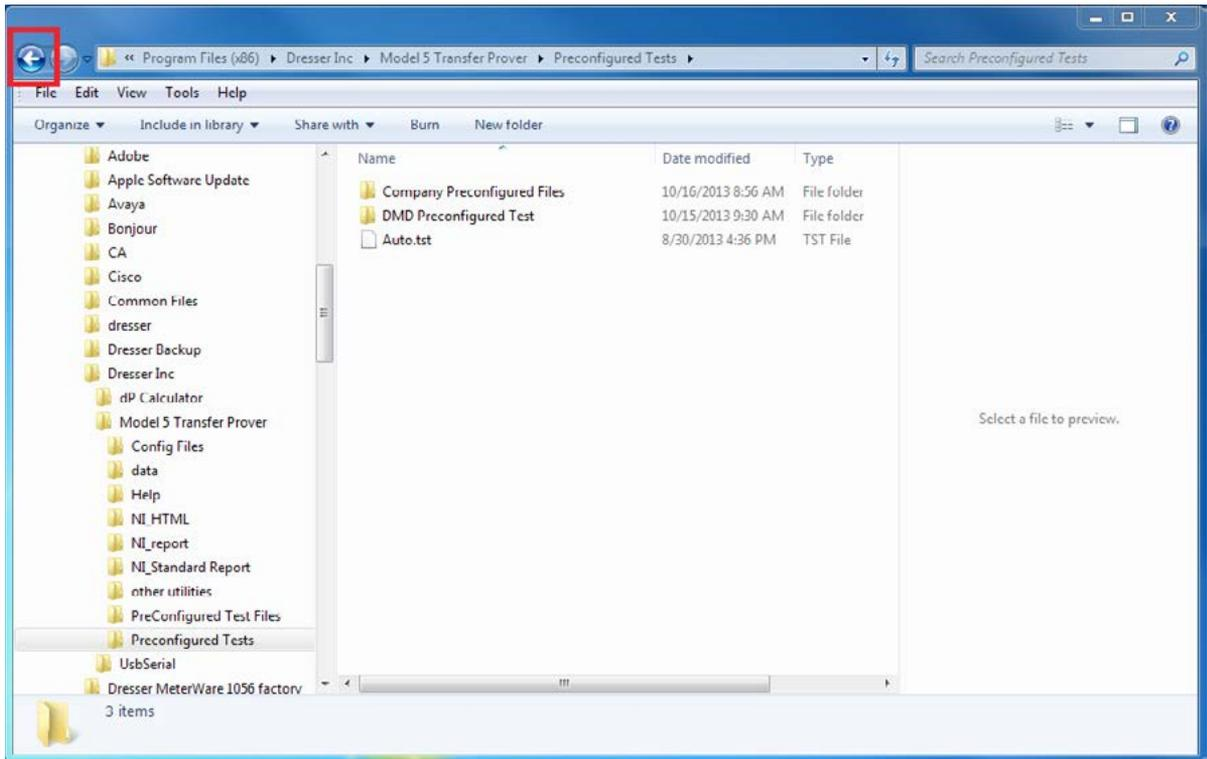

Figure 16: Back Arrow Selection
16. Select the back arrow button on the top left screen as shown in **Figure 16**.